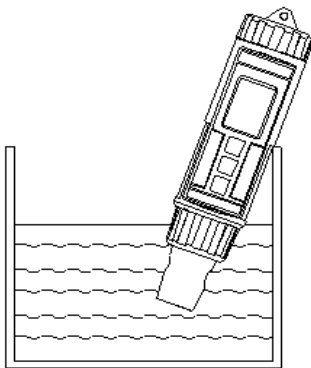

Fig. 3
- 3) First check the reading values (  $\mu\text{S}$  ) for the water that is not made the treatment ( not via the FILTER ), then record the reading value, ref. Fig. 3